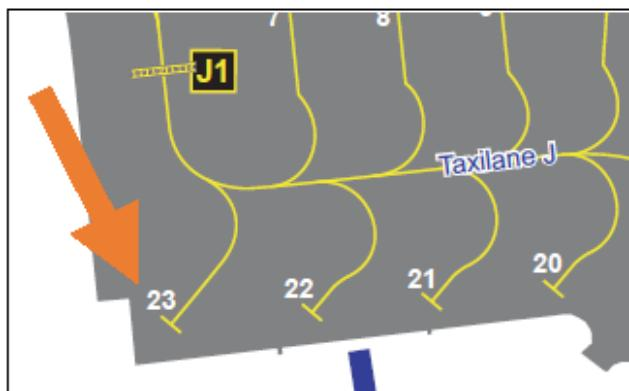

Figure 1 – Location of Stand 23
3.1 The only available remote stand which can be utilised for this procedure is Stand 23 (Figure 1).